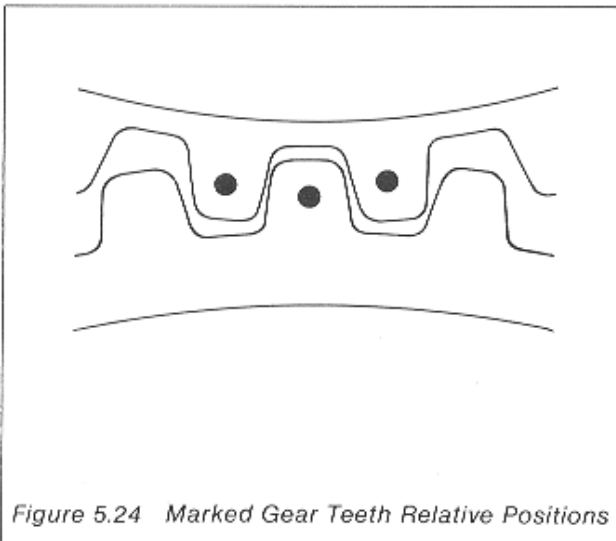

Figure 5.24 Marked Gear Teeth Relative Positions
- (3) Fit the camshaft making sure that the marked teeth on the gearwheels are in their relative positions as shown in Figure 5.24.